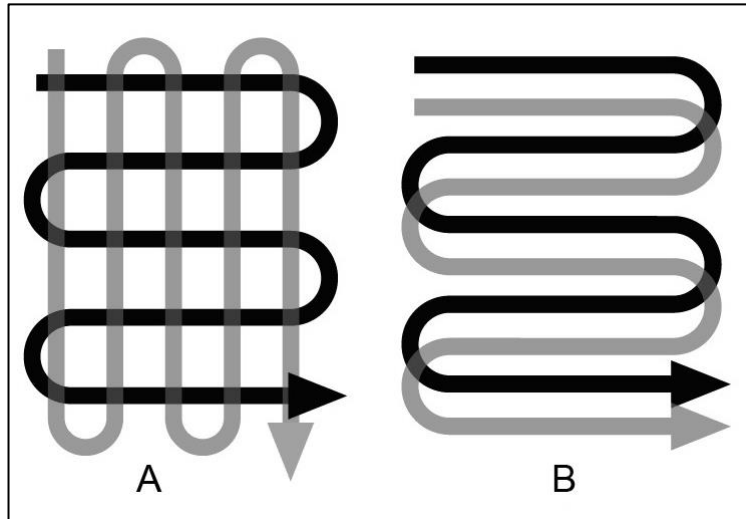

Fig.9
- For preparing a seed bed, we recommend using one of the tilling patterns shown in Fig. 9.